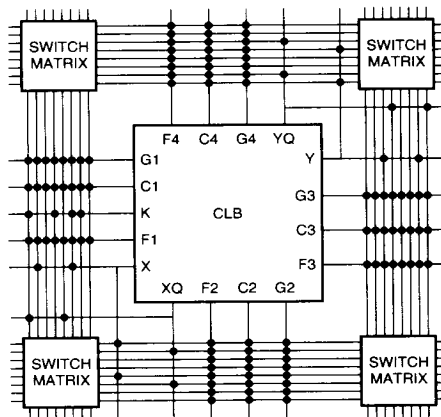
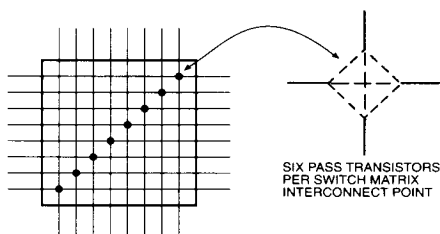

Figure 6. Typical CLB Connections to Adjacent Single-Length Lines
Figure 7. Switch Matrix
In previous generations of LCAs, the logic-block inputs were located on the top, left, and bottom of the block; outputs exited the block on the right, favoring left-to-right data flow through the device. For the third-generation family, the CLB inputs and outputs are distributed on all four sides of the block, providing additional routing flexibility (Figure 6). In general, the entire architecture is more symmetrical and regular than that of earlier generations, and is more suited to well-established placement and routing algorithms developed for conventional mask-programmed gate-array design.
There are three main types of interconnect, distinguished by the relative length of their segments: single-length lines, double-length lines, and Longlines. Note: The number of routing channels shown in Figures 6 and 9 are for illustration purposes only; the actual number of routing channels varies with array size. The routing scheme was designed for minimum resistance and capacitance of the average routing path, resulting in significant performance improvements.
The single-length lines are a grid of horizontal and vertical lines that intersect at a Switch Matrix between each block. Figure 6 illustrates the single-length interconnect lines surrounding one CLB in the array. Each Switch Matrix consists of programmable n-channel pass transistors used to establish connections between the single-length lines (Figure 7). For example, a signal entering on the right side of the Switch Matrix can be routed to a single-length line on the top, left, or bottom sides, or any combination thereof, if multiple branches are required. Single-length lines are normally used to conduct signals within a localized area and to provide the branching for nets with fanout greater than one.
The function generator and control inputs to the CLB (F1-F4, G1-G4, and C1-C4) can be driven from any adjacent single-length line segment (Figure 6). The CLB clock (K) input can be driven from one-half of the adjacent single-length lines. Each CLB output can drive several of the single-length lines, with connections to both the horizontal and vertical Longlines.
Longlines form a grid of metal interconnect segments that run the entire length or width of the array (Figure 6). Additional vertical long lines can be driven by special